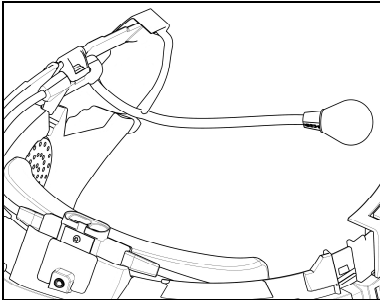

Fig. 5
- Position the microphone in the housing on the right of the helmet, inserting the metal boom in the groove found in the chin guard coupling frame (Fig. 5).